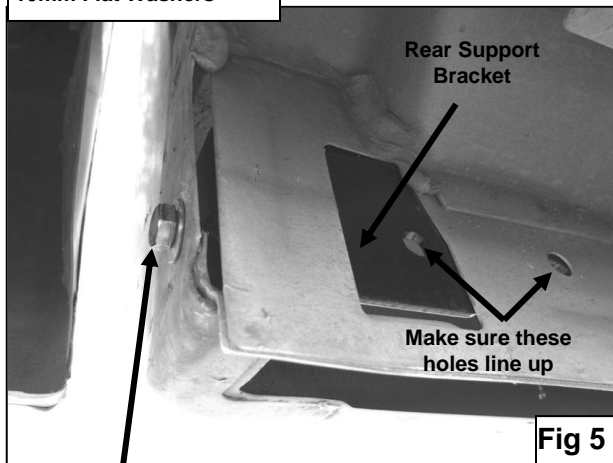

**Fig 3**
4. On the rear side of the driver front body mount there is a factory hole in the floor panel located by the frame rail, loosely attach the straight end of the driver side front Support Bracket to this factory hole using the included (1) 10mm x 30mm Hex Head Bolt, (1) 10mm Lock Washer, (1) 10mm Hex Nut, and (2) 10mm Flat Washers **(Figure 3)**.